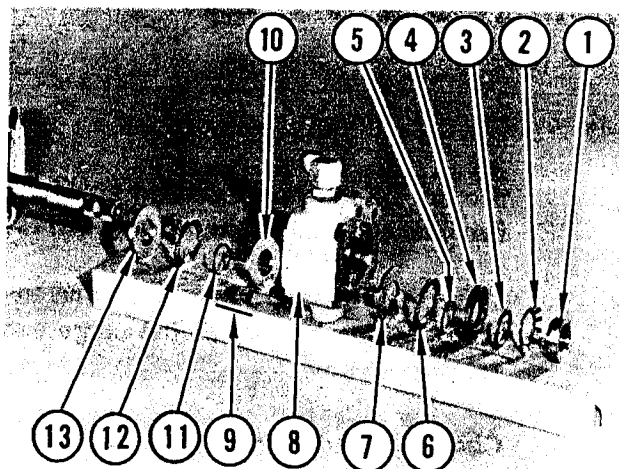

FIGURE 22. EXPLODED VIEW OF CONTROL VALVE
Refer to Figure 22 and follow the numerical sequence for disassembly of the control valve.
To reassemble the control valve, reverse the numerical sequence as shown in Figure 22 plus the following information.
1. After all parts shown in Figure 22 have been assembled on input shaft, carefully tighten locknut, noting that the thrust bearings are located over the spacers, until snug tight, then back off the nut approximately 20° and bend one tang of lockwasher into a matching slot of nut. Check for free rotation on shaft. Valve should have no perceptible end play.